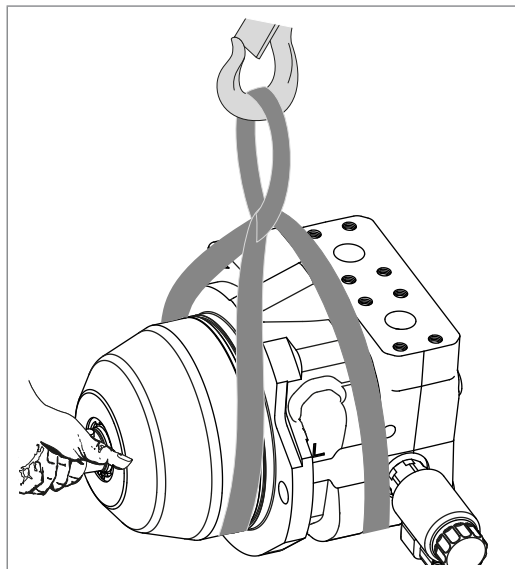

Fig. 5: Transport with lifting strap
- ▶ Place the lifting strap around the axial piston unit in such a way that it does not pass over attachments (e.g., valves, piping) and that the axial piston unit is not suspended from attachments (see Fig. 5).